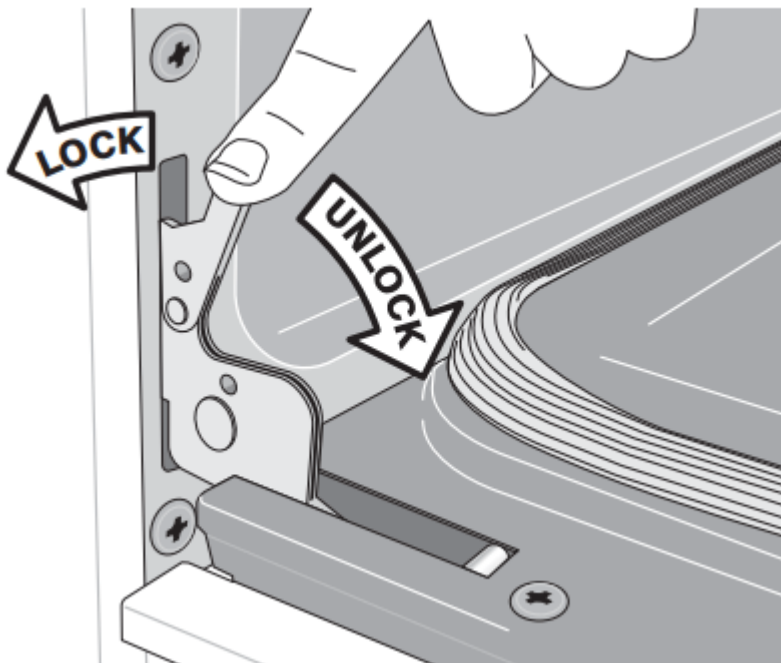

Figure 27: Door hinge Locks
2. Pull the door hinge locks on both left and right door hinges down from the oven frame completely towards the oven door (Figure 27). A tool such as a small flat-blade screw-driver may be required.
4. Push the door hinge locks up towards and into the oven frame on both left and right oven door hinges to the locked position (See Figure 27).